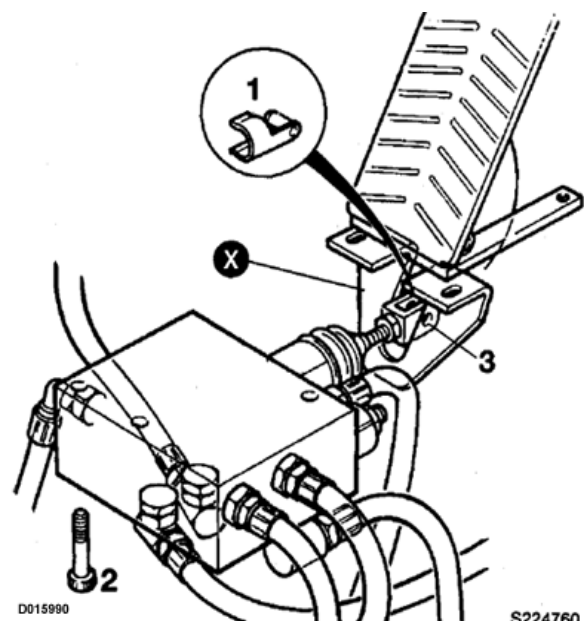

Fig 1.
- 5 Remove cap screws 2 and remove the valve from the bracket → Fig 1. (□ G-1).